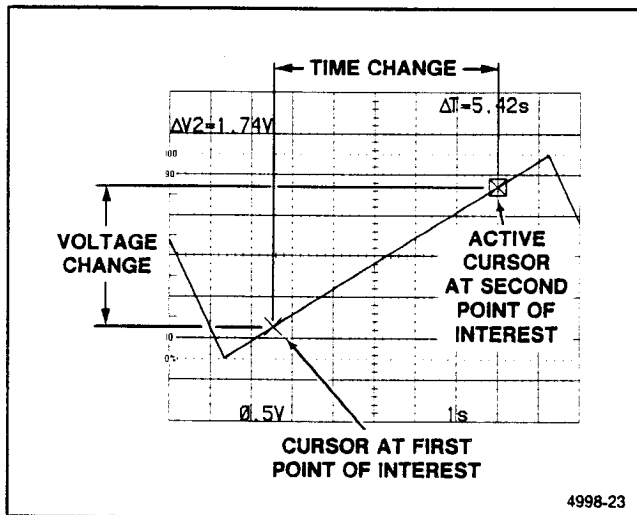

Figure 6-21. Slope using cursors.
4. Set the SEC/DIV switch to horizontally spread the portion of the waveform to be measured across the width of the graticule area (see Figure 6-21).
As an example, in Figure 6-21, the voltage difference between the measurement points is 1.74 V, and the time difference is 5.42 s.